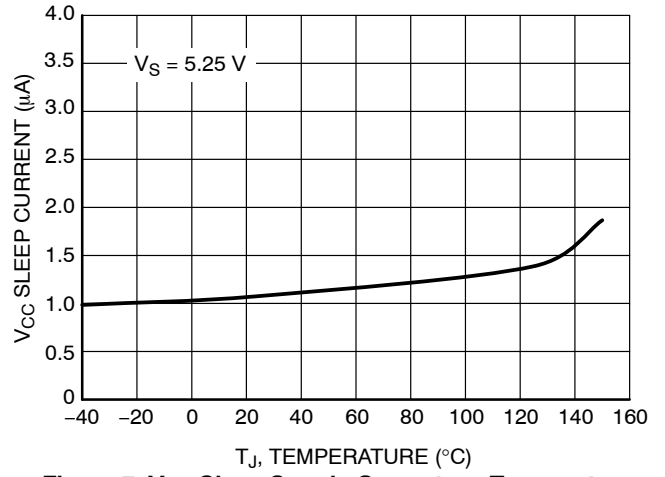

Figure 7.  $V_{CC}$  Sleep Supply Current vs. Temperature
6. For temperatures above  $85^{\circ}\text{C}$ , refer to Figure 7.